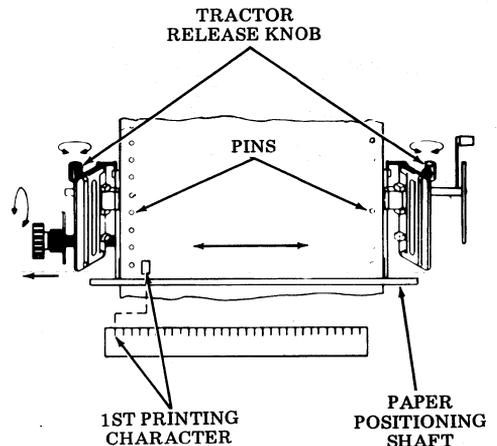

Fig. 57—Left Tractor Positioning
- (e) Set the left tractor for the left margin (Fig. 57). Note that the left tractor can be placed in position one through seven.
- (1) Loosen the left tractor release knob and slide the tractor to the desired left margin position using the scale on the printer as reference.